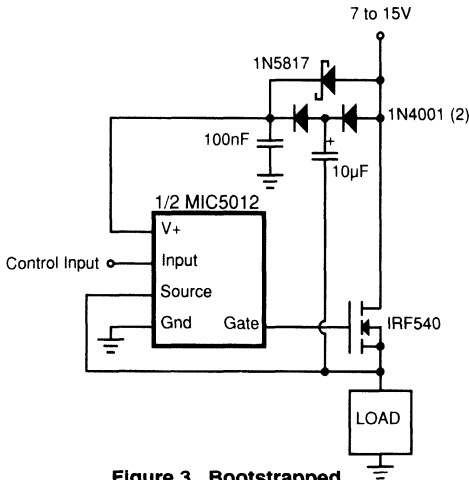

Figure 3. Bootstrapped High-Side Driver
**Bootstrapped High-Side Driver** (Figure 3). The speed of a high-side driver can be increased to better than 10 $\mu$ s by bootstrapping the supply off of the MOSFET source. This topology can be used where the load is pulse-width modulated (100Hz to 20kHz), or where it is energized continu-